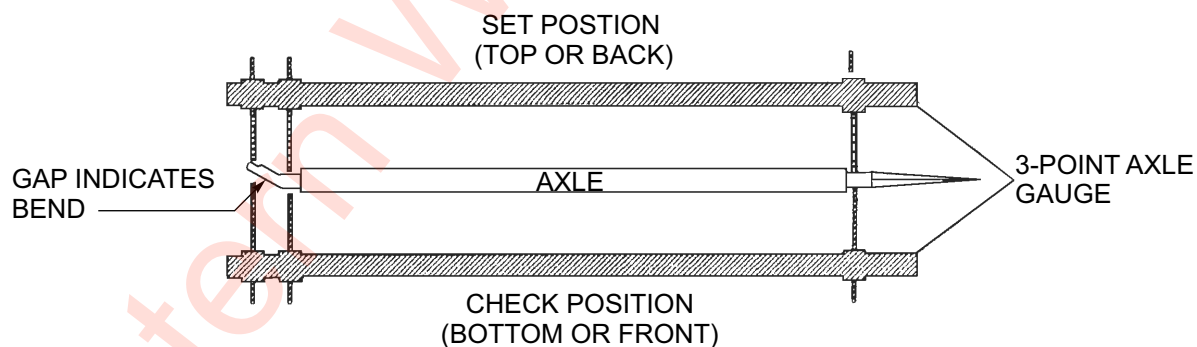

Figure 4-10: Checking Axle for Bend
2. Place a 3-point axle gauge against the front side of the axle, and adjust each axle gauge point to the axle. (Double point end against the inner and outer wheel bearing surfaces of the spindle being checked and the other point on the inner bearing surface on the other spindle (See Figure 4-10.))
3. Move the axle gauge and place against the back side of the axle. If either of the points of double point end fails to touch the axle surface, a bent spindle is evident. A point gap of .015" or more is considered excessive tire "toe" and the axle must be replaced (See Figure 4-10.)